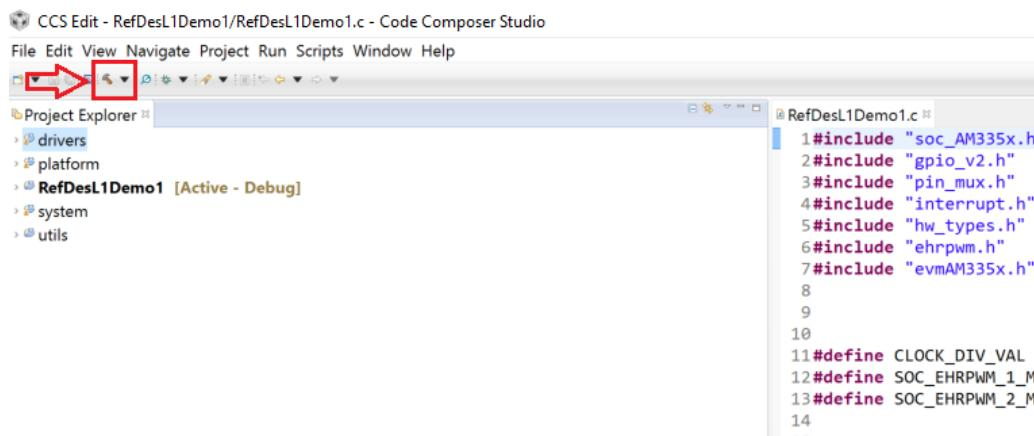

Figure 75 CCS Build button
Delete the default **init.asm** file under this project and replace it with the modified **init.asm** file (can be downloaded from the link above) as shown in Figure 74. Build the project using the **build button** as shown in Figure 75.
- Build each of the above projects by selecting the project and hitting the **build** button as shown in Figure 75.